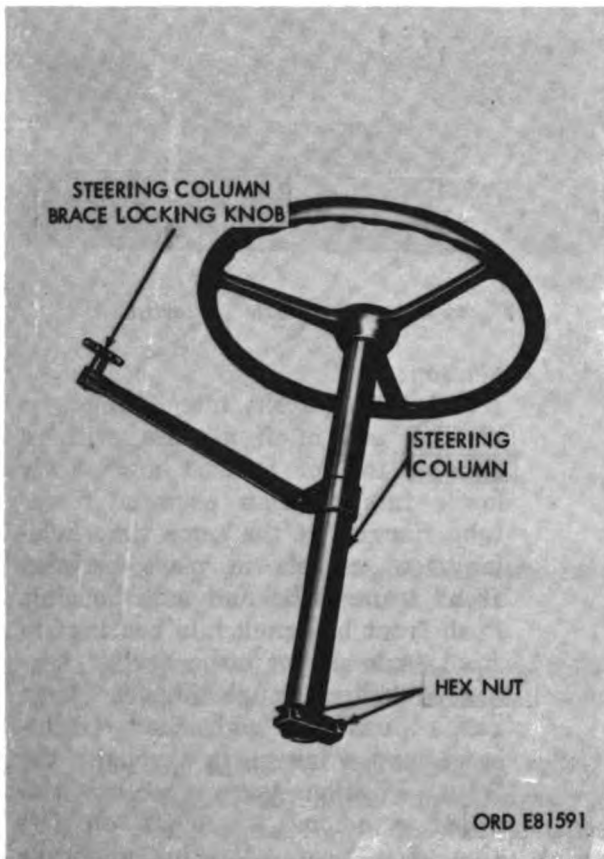

Figure 2-49. Steering column and wheel removed.
- (1) Remove steering column and wheel assembly (fig. 2-49) by loosening